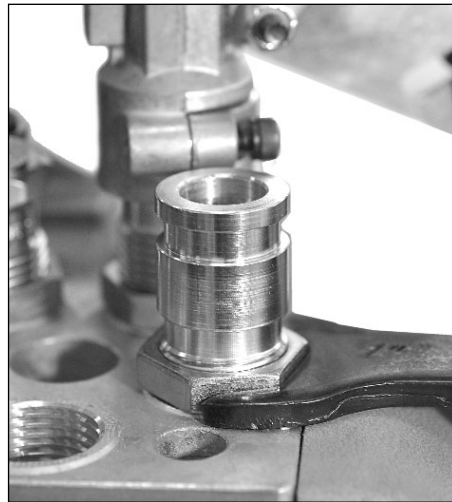

FIG 55
3. Run the locking down. Using a 1 1/8" wrench snug the locking **FIG 55**.